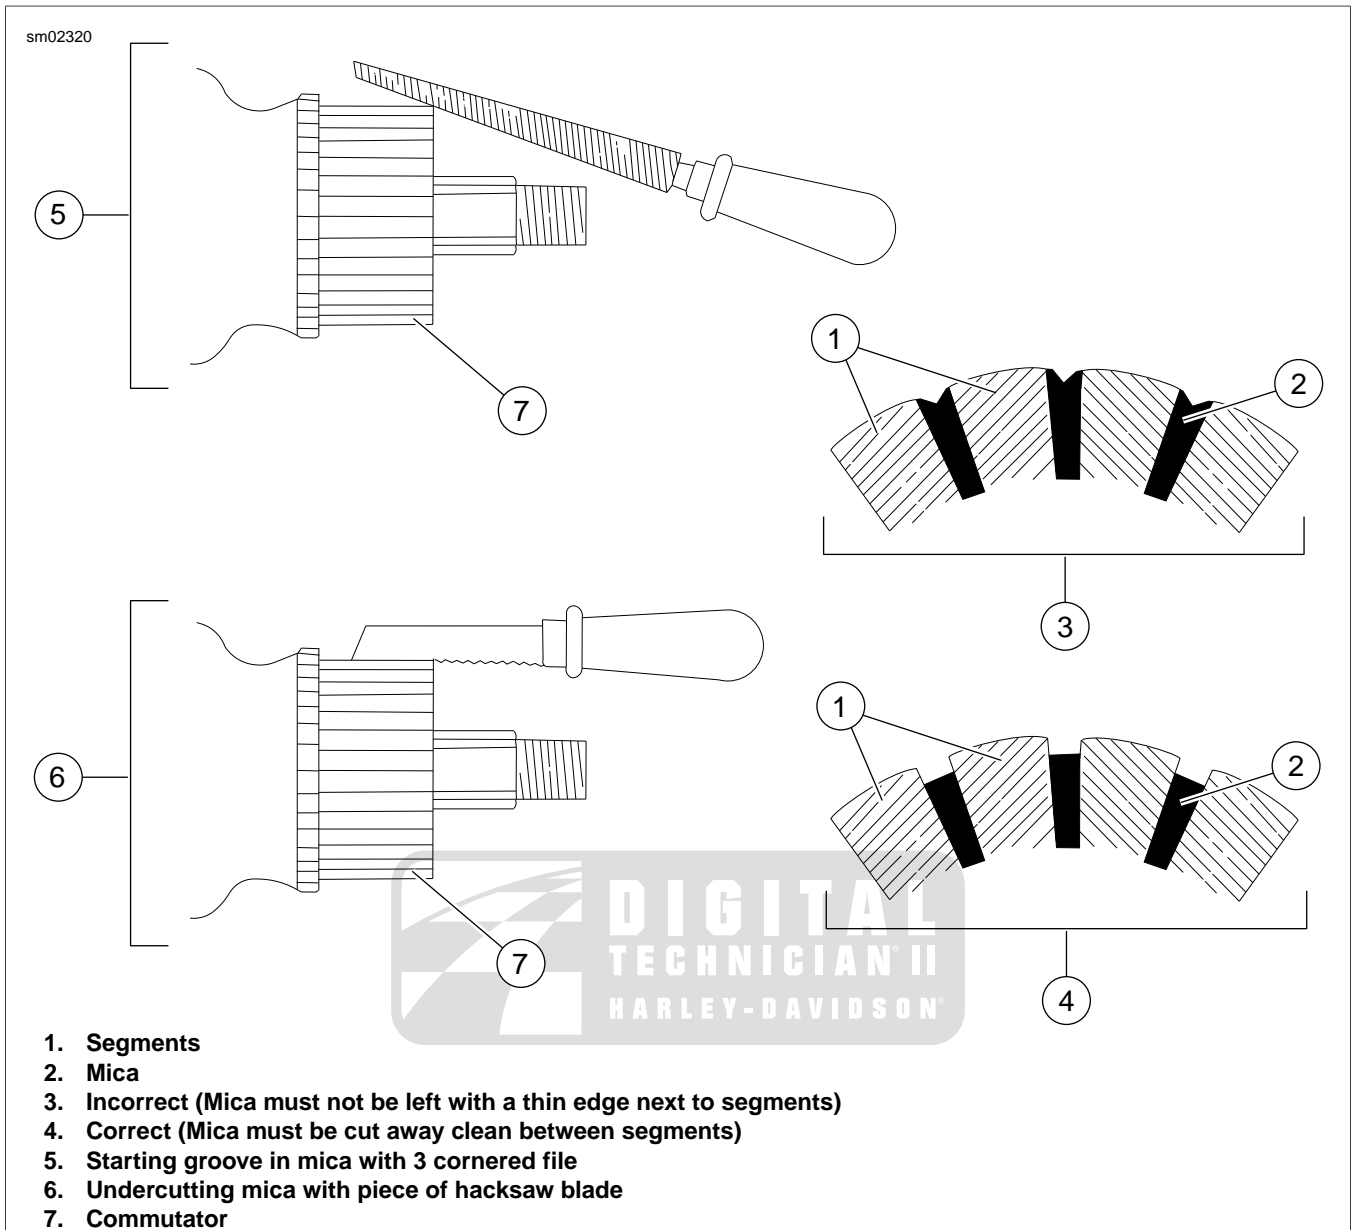

Figure 7-19. Undercutting Mica Separators
- See Figure 7-19. If an undercutting machine is not available, undercutting can be done satisfactorily using a thin hacksaw blade. After undercutting, lightly sand the armature with crocus cloth to remove any burrs.